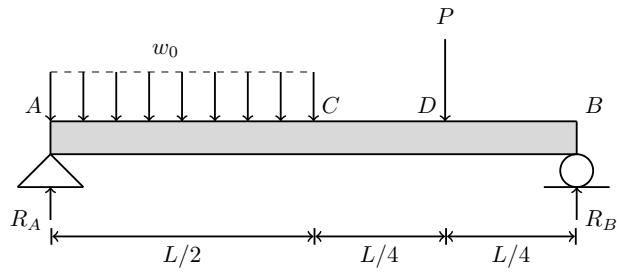

Figure 8
8. Consider the following loading condition of a simply supported beam as shown in Fig. 8. Draw the elastic curve for the given problem and determine the maximum deflection and slope.